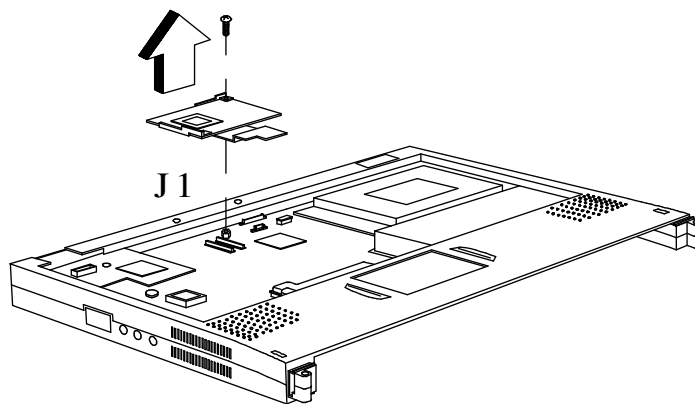

Figure 6-14 CPU Board Assembly Removal/Replacement
7. Remove four screws from the four corners of the top cover (Figure 6-14).